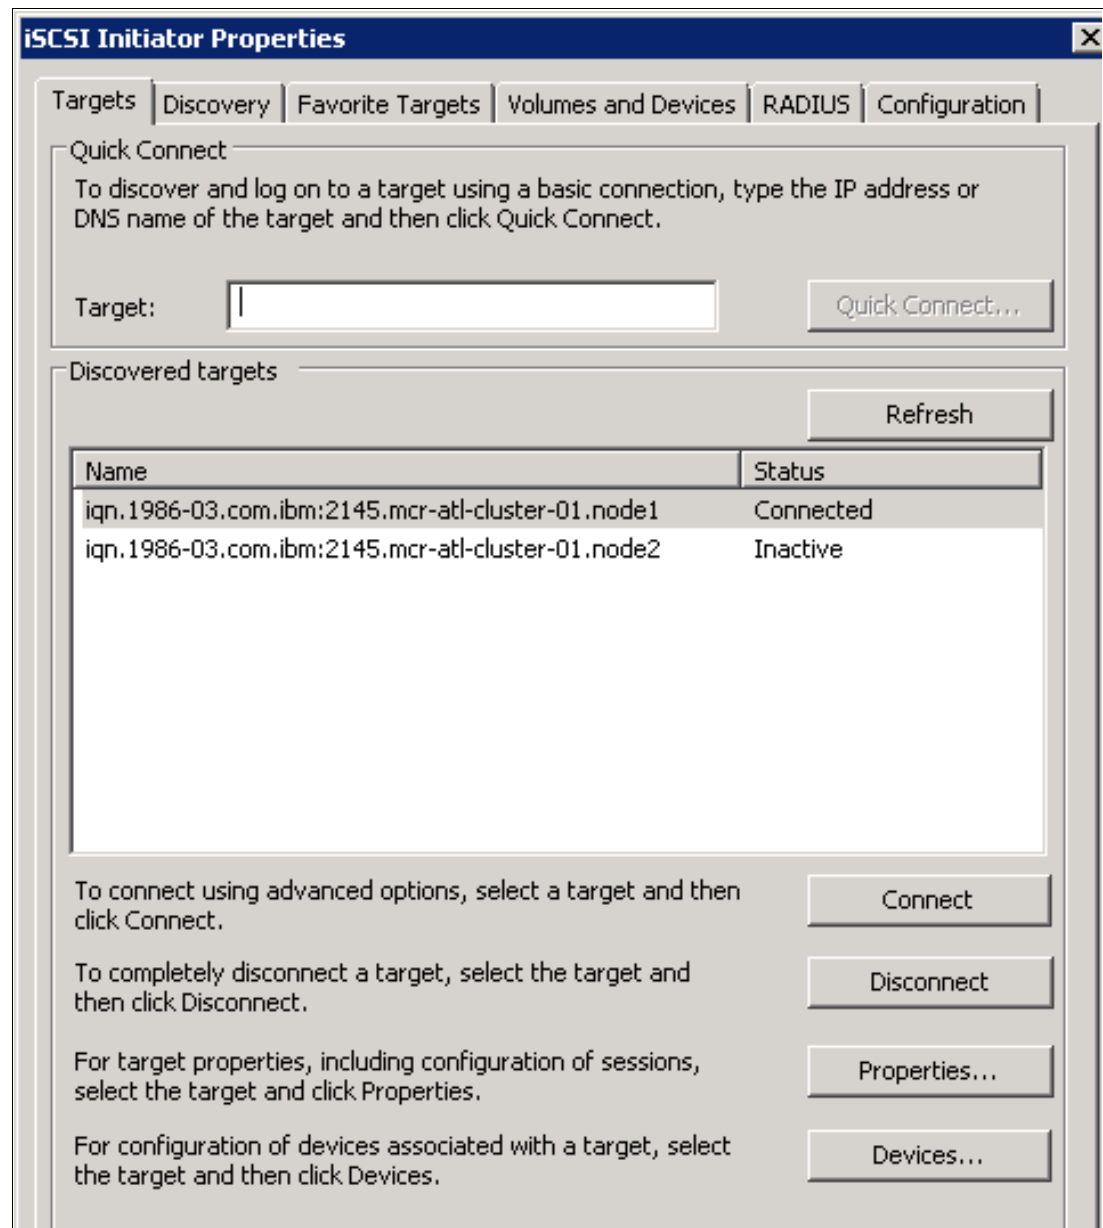

Figure 5-53 Inactive target ports
- Return to the Targets tab (as shown in Figure 5-53) and you see that the new connection there is listed as Inactive.